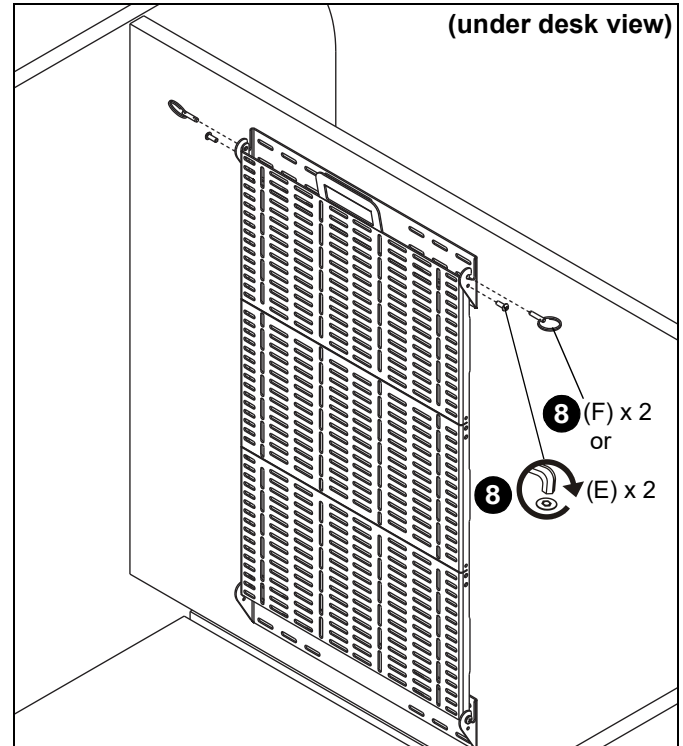

Figure 6
8. Use either two quick release pins (F) or two #10-24 1/2" button head security screws (E) to secure accessory desk plate (A) to front desk bracket (B). (See Figure 6)